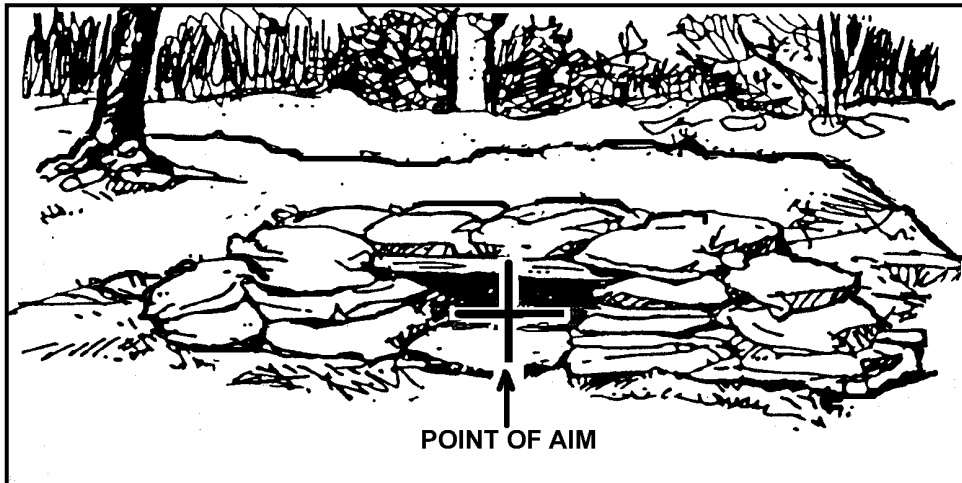

Figure 7-3. Point of aim for sandbagged emplacement.
(3) Sandbagged emplacements present a different problem (Figure 7-3). These positions may be encountered in urban areas that are adjacent to or contain natural terrain. Because sandbags absorb much of the energy from a shaped-charge, the rounds should be aimed at the center of the firing aperture. Even if the round misses the aperture, the bunker wall area near it is usually easier to penetrate.